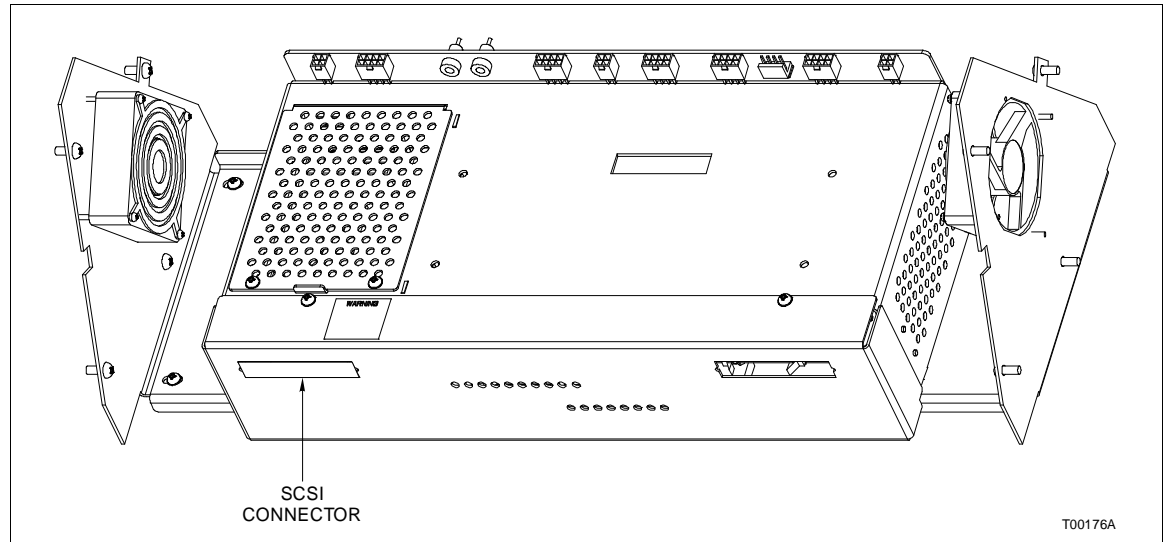

Figure PR43-2. SCSI Port
- 6. Remove the SCSI terminator from the SCSI connector on the NIU card cage. (Fig. PR43-2).